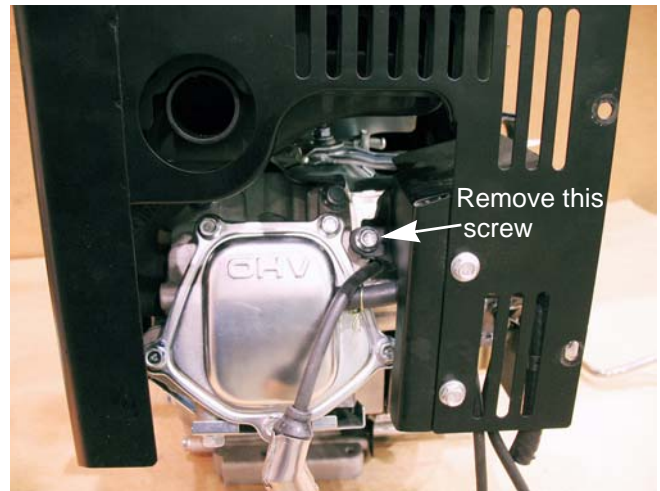

Figure 8.8
3. Remove the screw that holds the heat shield to the cylinder head using a 10 mm wrench. See Figure 8.8.